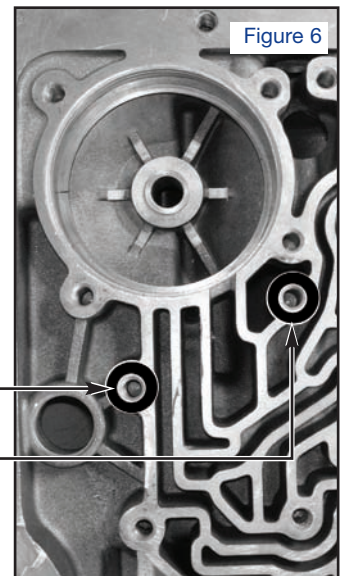

Figure 6
1. Mount the **SERVO-FIX** at the hole locations identified on the clamp plate and case (see Figure 6), using screws from hardware kit. Tighten fixture securely in place.